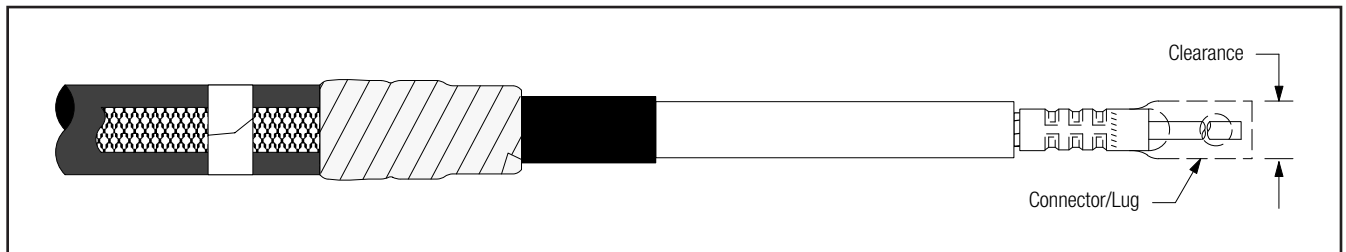

Figure 6
**4.1 Check to insure 3M Cold Shrink QT-III Silicone Rubber Termination assembly fits over the selected lug or connector BEFORE installing the lug or connector.** If lug or connector. (Figure 6) will not fit through the termination core, clean the insulation (per Step 5.0) and slide termination on cable before installing lug or connector. **DO NOT REMOVE CORE AT THIS TIME..**